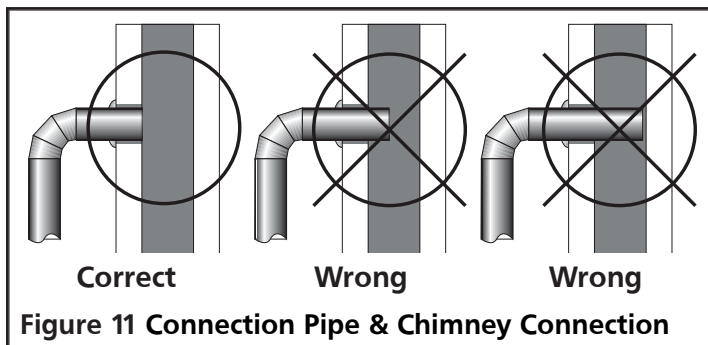

**Figure 10 Mobile Home Vertical Chimney**
2. The chimney connection must not be obstructed by the chimney connector pipes, such as the figure 10 below illustrates.